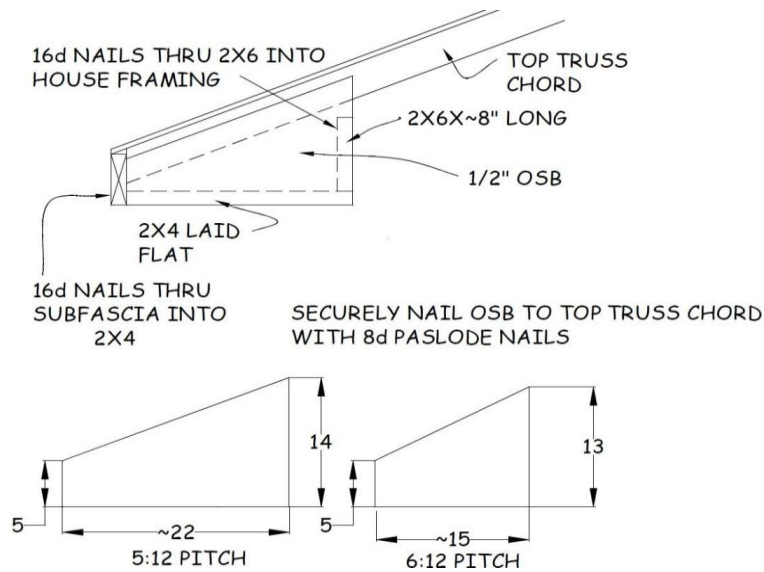

Figure 11-3. Gable Corner.
2. Gable corners are built using one layer of ½" OSB (see Figure 11-3). For 5:12 pitch roofs (most common) take some scrap OSB, at least 14" wide, and as long as the measurement determined in Step 1 above (e.g. 22" length). From the nominal 22" length side, measure up from one edge of the OSB 14" and make a mark. Measure up the other edge 5" and make a mark. Draw a line to connect these two marks and cut along the line.
7. Nail the OSB to the 2x4 and the 2x6 with six 2¾” collated nails, using either factory edges or a framing square to keep the frame pieces square to each other (see Figure 11-3).